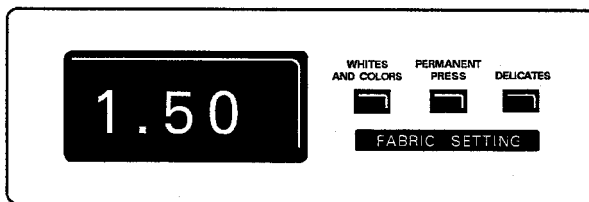

Figure 3-3
The display can contain four (4) numbers and/or letters and a decimal point following the first character. The far left character and the decimal point are used to indicate one of several set up codes available for a specific function, *see Figure 3-3*. Only the codes appropriate will be shown. The other digits are used to provide information about the code shown.